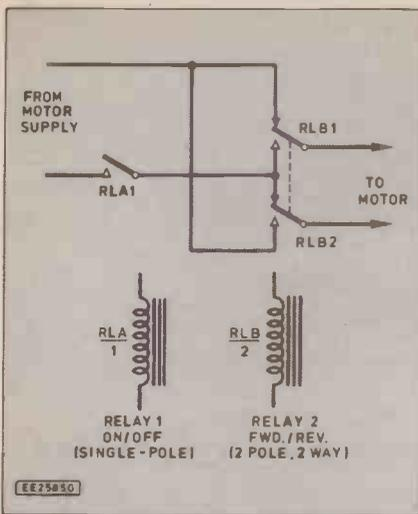

Fig. 7.3. Adding a reversing relay.
**S** It takes a two-pole changeover relay, thus (Fig. 7.3).